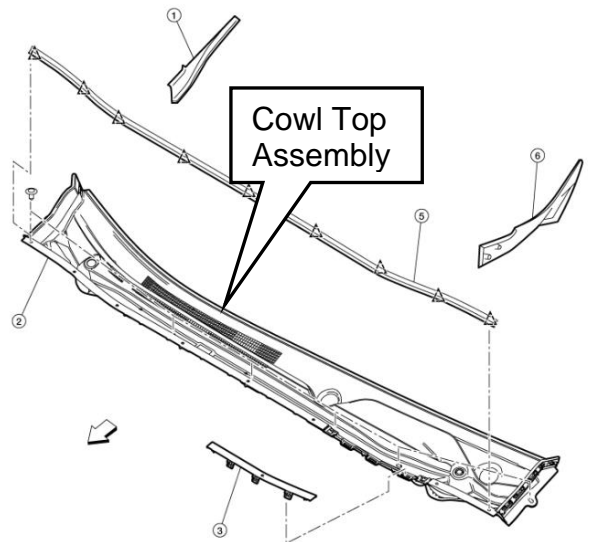

Figure 9
6. Remove cowl top assembly (Figure 9).
- Remove (6) retaining clips